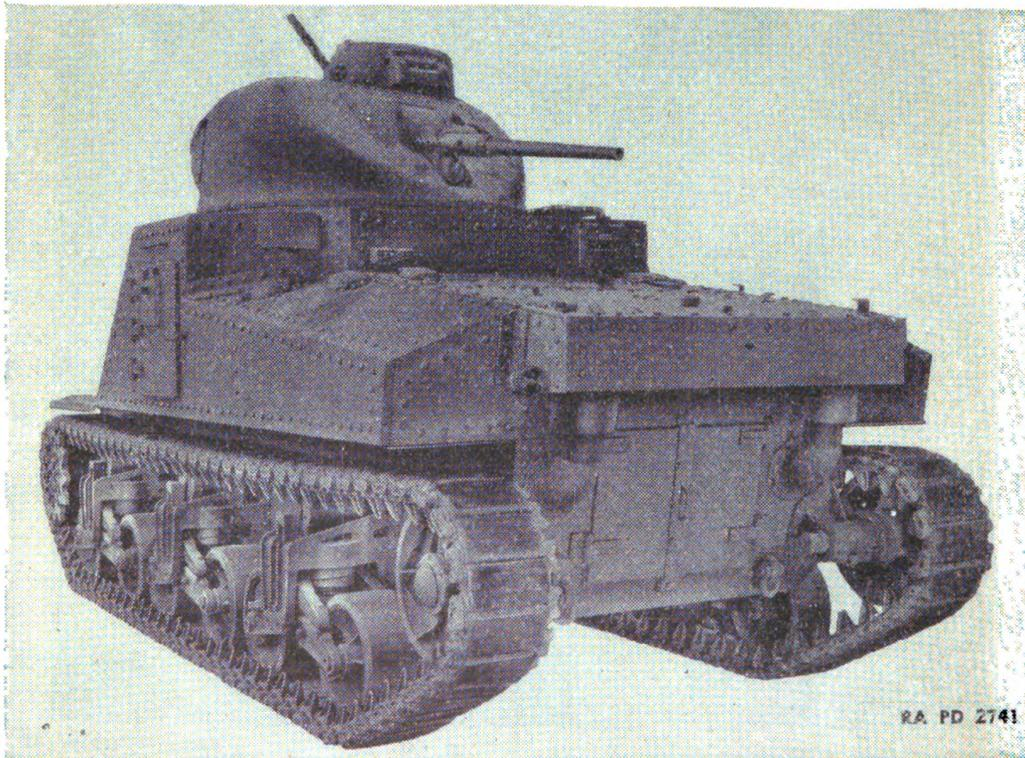

FIGURE 3.—Left rear view of tank.
4. Description (figs. 3 to 5, incl.)—*a.* The medium tank is an armored, full-track-laying vehicle, powered by a nine-cylinder, air-